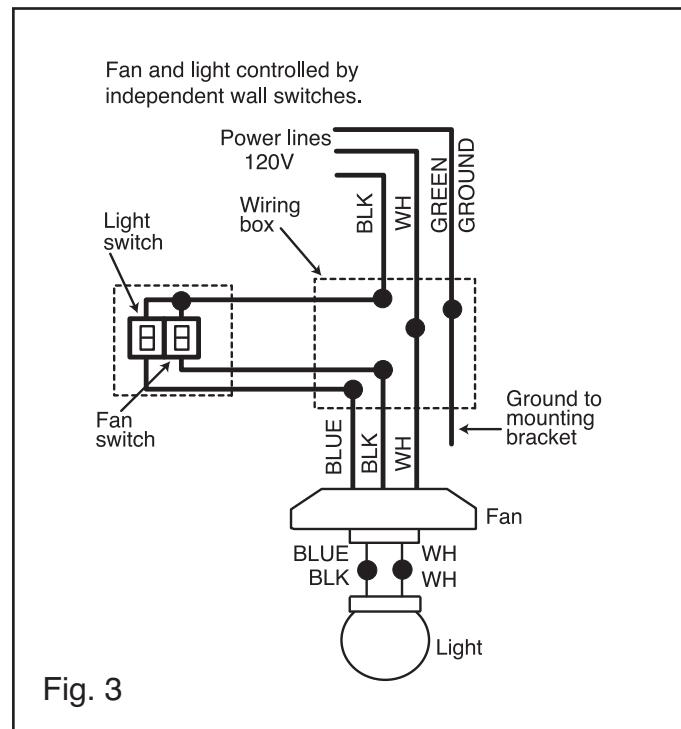

Fig. 3
7. Insert 2 screws into the hanger bracket, leaving them partially out (Fig. 3).